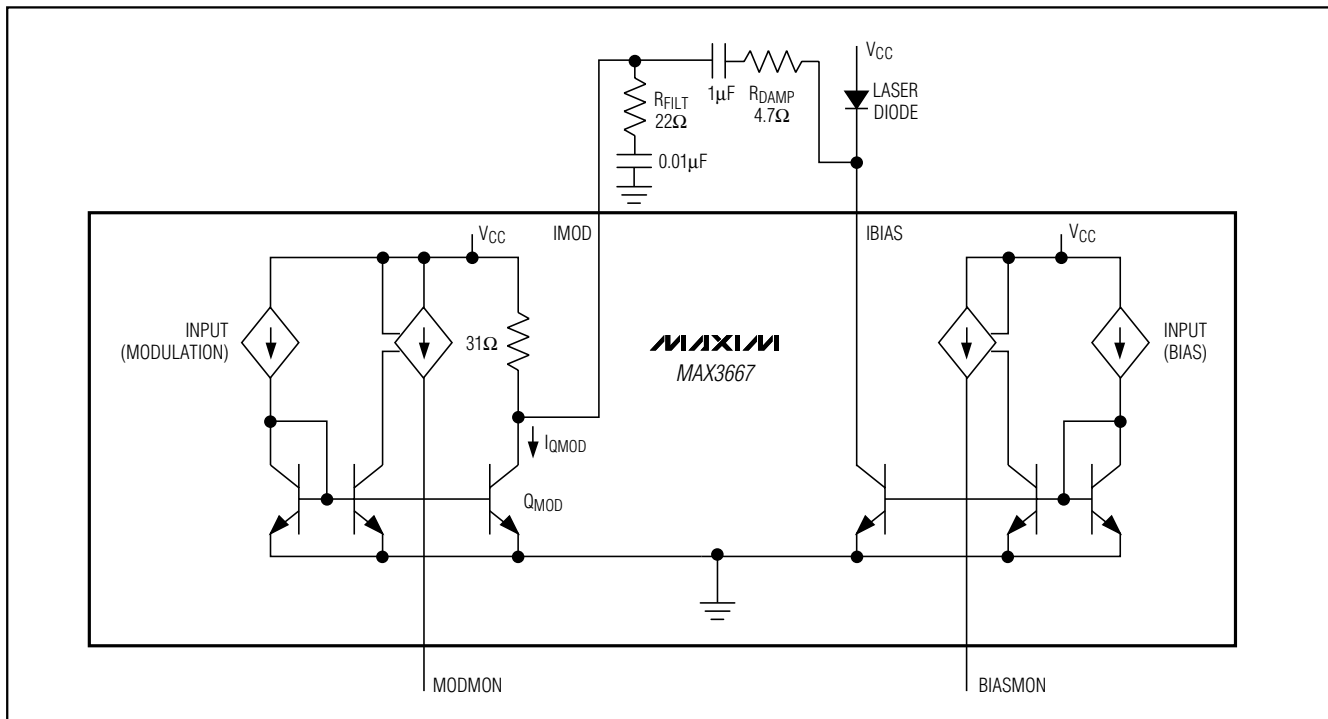

Figure 1. Simplified Modulation Driver Block Diagram
**Note 10:** IQMOD is the current flowing into the collector of QMOD (Figure 1).
Low-voltage operation of laser diodes and optical transmitters produces stringent headroom conditions for laser drivers. Fast changes in modulation current produce large inductive voltage spikes, creating device saturation problems. Therefore, for +3.3V operation, the MAX3667's modulation current should be AC-coupled to the cathode of a laser diode. The recommended DC-blocking capacitor value is  $1\mu\text{F}$ . A simplified block diagram of the modulation driver is shown in Figure 1.
In addition to being a function of RMODSET, IMOD is also dependent on the values of the series damping resistor ( $R_{DAMP}$ ), the shunt compensation resistance ( $R_{FILT}$ ), and the resistance of the laser diode (Figure 1).